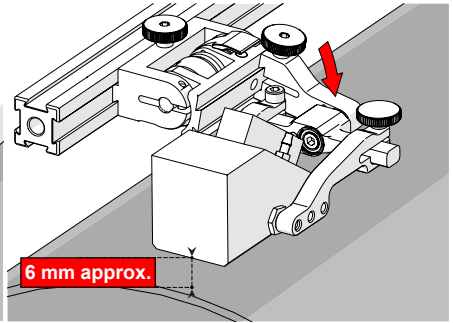

Fig. 70 - Lower to scanning surface
2. Push the probe holder yoke down toward the inspection surface until the wedge is approximately 6 mm ($\frac{1}{4}$ in) above the inspection surface (Fig. 70).